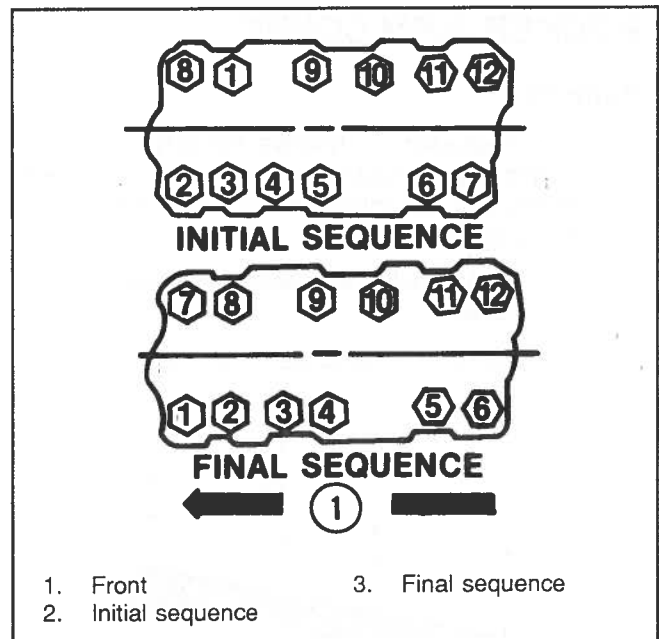

Figure 8-26. Intake-Manifold Torquing Sequence
3. Carefully install manifold assembly and torque bolts in sequence to specifications (see Figure 8-26).